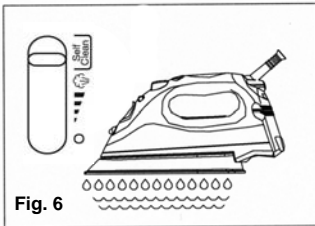

Fig. 6
5. Turn the variable steam control all the way to the right to the self-cleaning position and hold the iron horizontally over the sink. (Fig. 6)